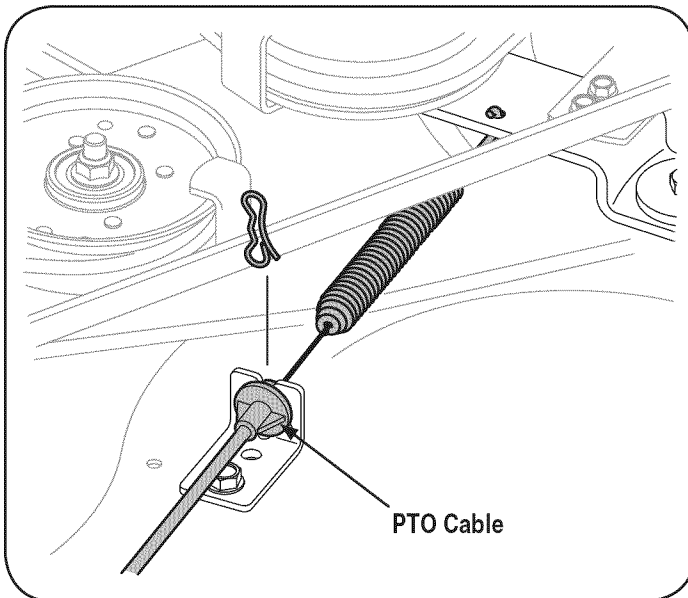

Figure 20
9. Carefully remove the PTO cable from the rear of the cutting deck by removing the bow-tie cotter pin which secures it. Remove the spring from the deck idler bracket. See Fig. 20.